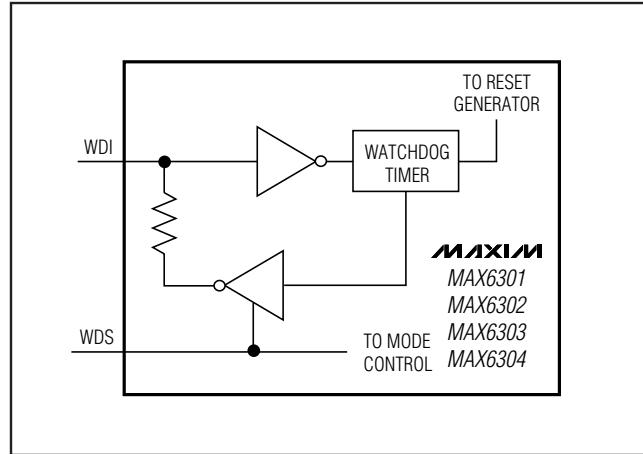

Figure 8. Watchdog Input Structure
**Note 4:** The sink/source is supplied through a resistor, and is proportional to  $V_{CC}$  (Figure 8). At  $V_{CC}$  = 2V, it is typically  $\pm 24\mu A$ .
In extended mode (WDS = VCC), the WDI input is internally driven through a buffer and series resistor from the watchdog counter (Figure 8). When WDI is left unconnected, the watchdog timer is serviced within the watchdog timeout period by a very brief low-high-low pulse from the counter chain. For minimum watchdog input current (minimum overall power consumption), leave WDI low for the majority of the watchdog timeout period, pulsing it low-high-low (> 30ns) once within the period to reset the watchdog timer. If instead WDI is externally driven high for the majority of the timeout period, typically 70µA can flow into WDI.